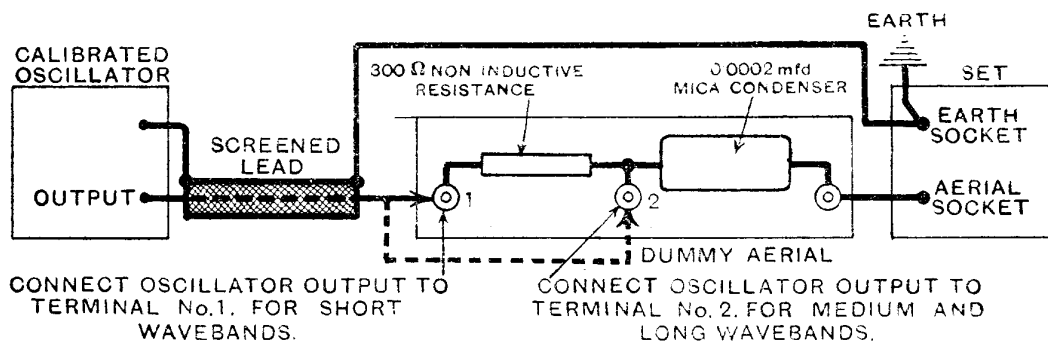

FIG. 11.
- (iii) Connect modulated oscillator to aerial and earth sockets of set via M.W. dummy aerial (see Fig. 11).
- (ii) Adjust modulated oscillator to 1,400 Kc/s and couple via M.W. dummy aerial (see Fig. 11) to aerial and earth sockets of receiver.
- (ii) Adjust modulated oscillator to 3.6 Mc/s and couple via short wave dummy aerial (see Fig. 11) to aerial and earth sockets of receiver.
- (iii) Adjust modulated oscillator to 1,400 Kc/s and couple via M.W. dummy aerial (see Fig. 11) to aerial and earth sockets of receiver.
- (ii) Adjust modulated oscillator to 9.5 Mc/s and couple via S.W. dummy aerial (see Fig. 11) to aerial and earth sockets of receiver.
- (ii) Adjust modulated oscillator to 20 Mc/s and couple via S.W. dummy aerial (see Fig. 11), to aerial and earth sockets of receiver.
Dummy aerial. If this is not incorporated in the oscillator, see Fig. 11.
A useful approximation, the accuracy of which is quite adequate for service purposes, is illustrated in Fig. 11. This consists of a 300 ohm non-inductive resistance and a 0.0002 mfd. mica condenser.
For the medium and long wavebands the condenser only is connected in series with the oscillator output lead by connecting the latter to terminal No. 2 on the dummy aerial. For the short wavebands the resistance and condenser are both utilised in series with the oscillator output by connecting this lead to terminal No. 1 on the dummy aerial. Both cases are illustrated in Fig. 11.